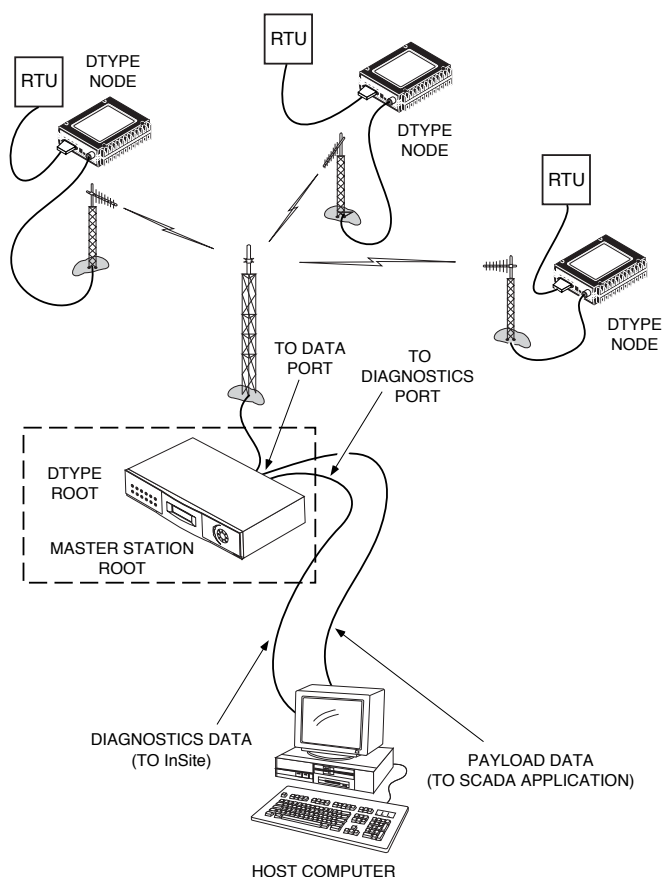

Figure 12. Network-Wide Remote Diagnostics Setup
Diagnostics data from a remote radio can be obtained by connecting a laptop or personal computer running GE MDS InSite NMS software to any radio in the network. Figure 12 shows an example of a setup for performing network-wide remote diagnostics.
6. Connect a PC with GE MDS InSite software installed to the root radio, or to one of the nodes, at the radio's diagnostic port. (This PC can also be the PC being used to collect payload data, as shown in Figure 12.)